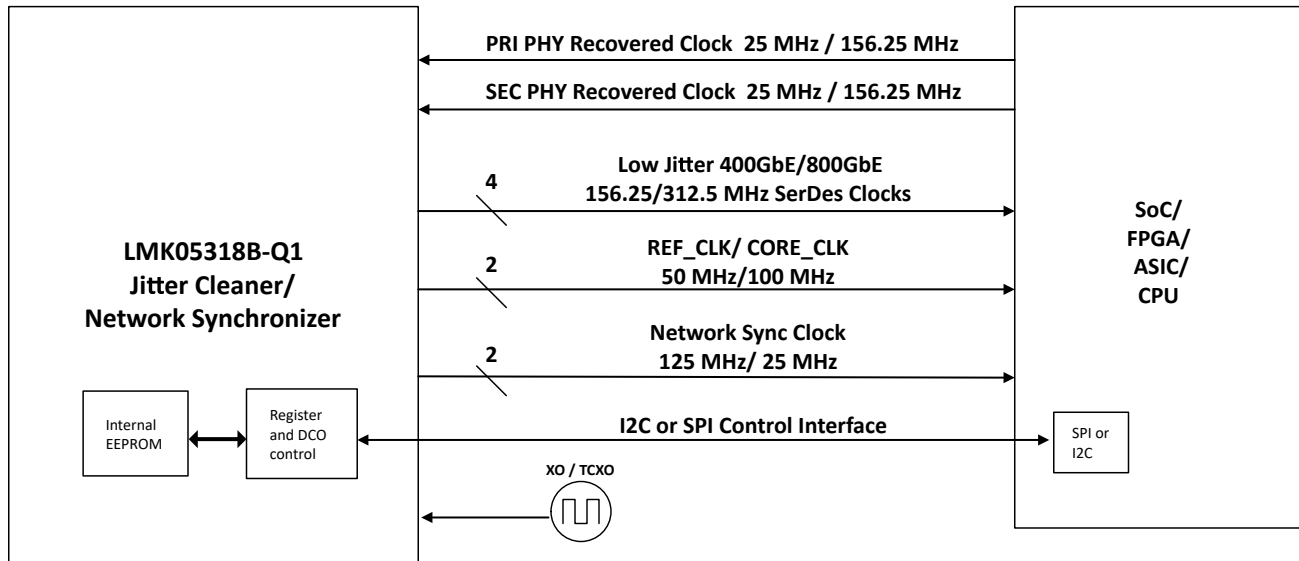

Figure 8-4. Typical System Block Diagram
Figure 8-4 shows an example system block diagram to help implement the LMK05318B-Q1 and the peripheral circuitry of the device. For the recommended power supply filtering scheme, refer to the LMK05318BEVM user's guide. For the recommended input and output terminations, refer to Clock Input Interfacing and Termination and Clock Output Interfacing and Termination.
- For a 3.3V LVCMOS driver, follow the OSC clock interface example in Figure 8-4. Power the OSC from a low-noise LDO regulator or optimize the power filtering to avoid supply noise-induced jitter on the XO clock.
- Reference inputs: Follow the LVCMOS or differential clock input interface examples in Figure 8-4 or in Clock Input Interfacing and Termination.
- Clock output Interfacing: Follow the single-ended or differential clock output interface examples in Figure 8-4 or in Clock Output Interfacing and Termination.
- Power all the VDD pins with proper supply decoupling and bypassing connect as shown in Figure 8-4.